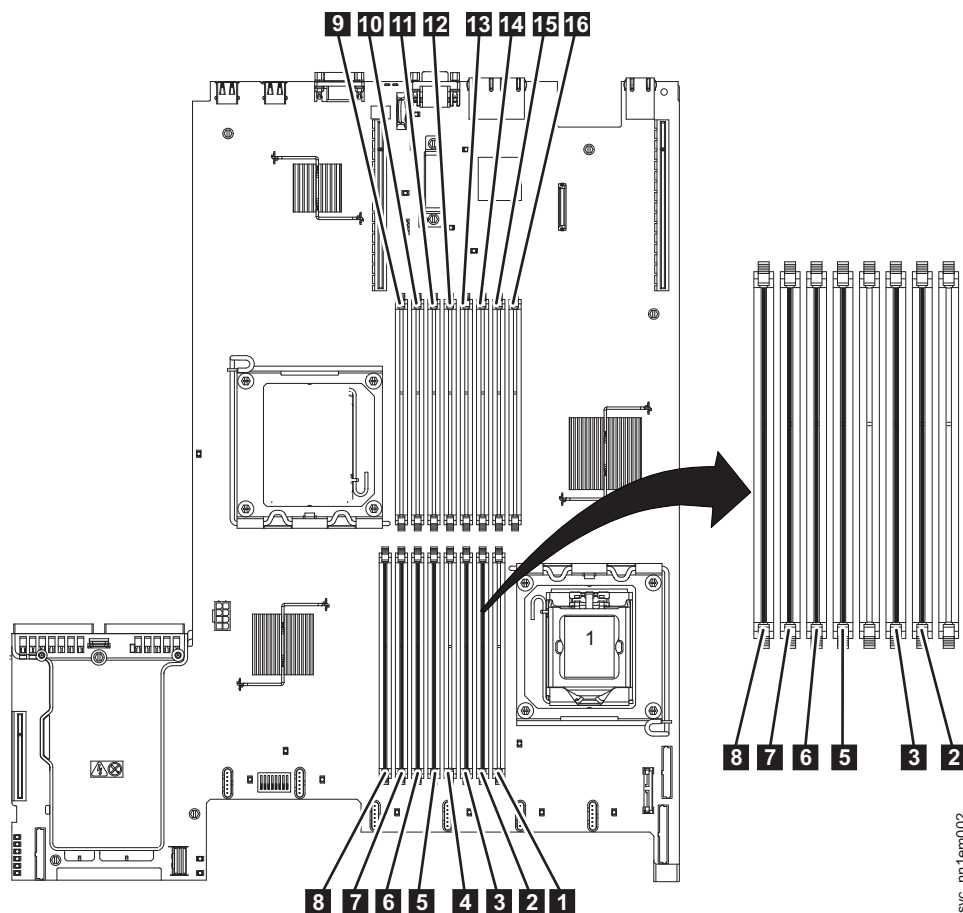

Figure 112. Locating the SAN Volume Controller 2145-CF8 memory modules
- The SAN Volume Controller 2145-CF8 node uses six modules in DIMM slots **2**, **3**, **5**, **6**, **7**, and **8**, as shown in Figure 112 on page 135.